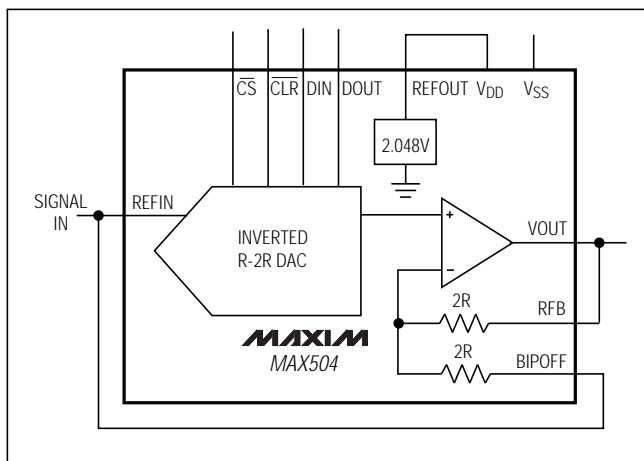

Figure 9. MAX504 Connected as Four-Quadrant Multiplier. The unused REFOUT is connected to V_{DD}.
The MAX504 can be used as a four-quadrant multiplier by connecting BIPOFF to REFIN and RFB to VOUT, and using (1) an offset binary digital code, (2) bipolar power supplies, and (3) a bipolar analog input at REFIN within the range $V_{SS} + 2\text{V}$ to $V_{DD} - 2\text{V}$, as shown in Figure 9.